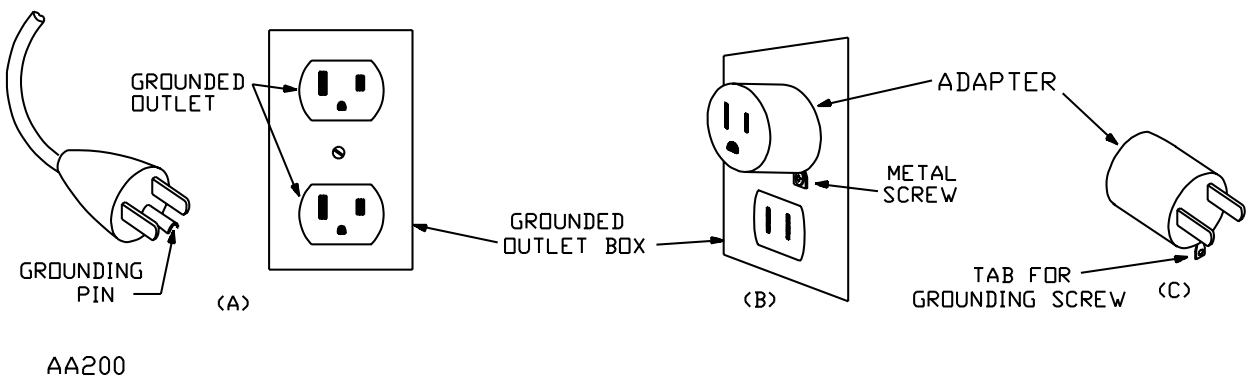

Figure 2: Grounding Methods
3. This product is for use on a nominal 120V circuit, and has a grounding plug that looks like the plug illustrated in sketch A in Figure 2: Grounding Methods. A temporary adapter, which looks like the adapter illustrated in sketches B and C, may be used to connect this plug to a 2-pole receptacle as shown in sketch B if a properly grounded outlet is not available. The temporary adapter should be used only until a properly grounded outlet (sketch A) can be installed by a qualified electrician. The green colored rigid ear, lug, and the like extending from the adapter must be connected to a permanent ground such as a properly grounded outlet box cover. Whenever the adapter is used, it must be held in place by the screw.